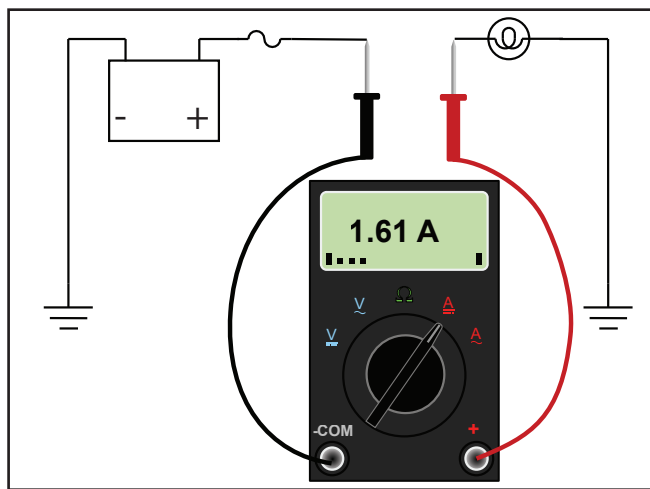

Figure 11
4. Read the amperage on meter (Figure 11).